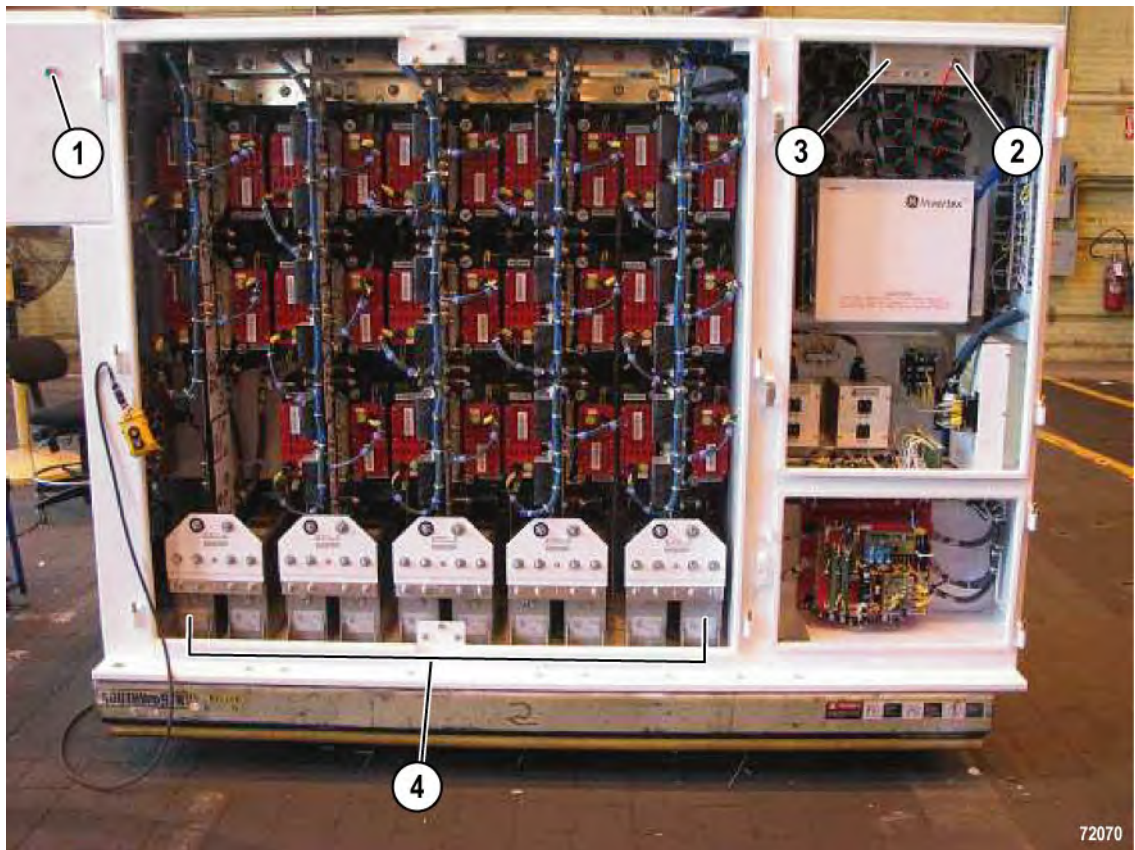

FIGURE 3-11. CAPACITOR CHARGE LIGHTS
4. Observe both capacitor charge lights (CCL1, CCL2). CCL1 is on the outside of the contactor box. CCL2 is on the switch panel inside the low voltage area. The lights will stay illuminated as long as the voltage on the DC link is greater than 50 VDC. Refer to Figure 3-11.